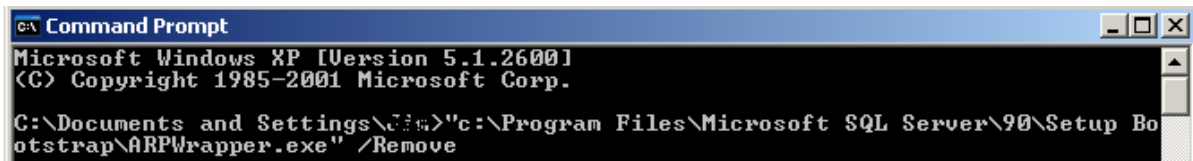

Figure II-29. Command Prompt Window
- 2) Copy and paste at the Command Prompt the following command (include the quotation marks): "**c:\Program Files\Microsoft SQL Server\90\Setup Bootstrap\ARPWrapper.exe**" /Remove (as shown in Figure II-29).